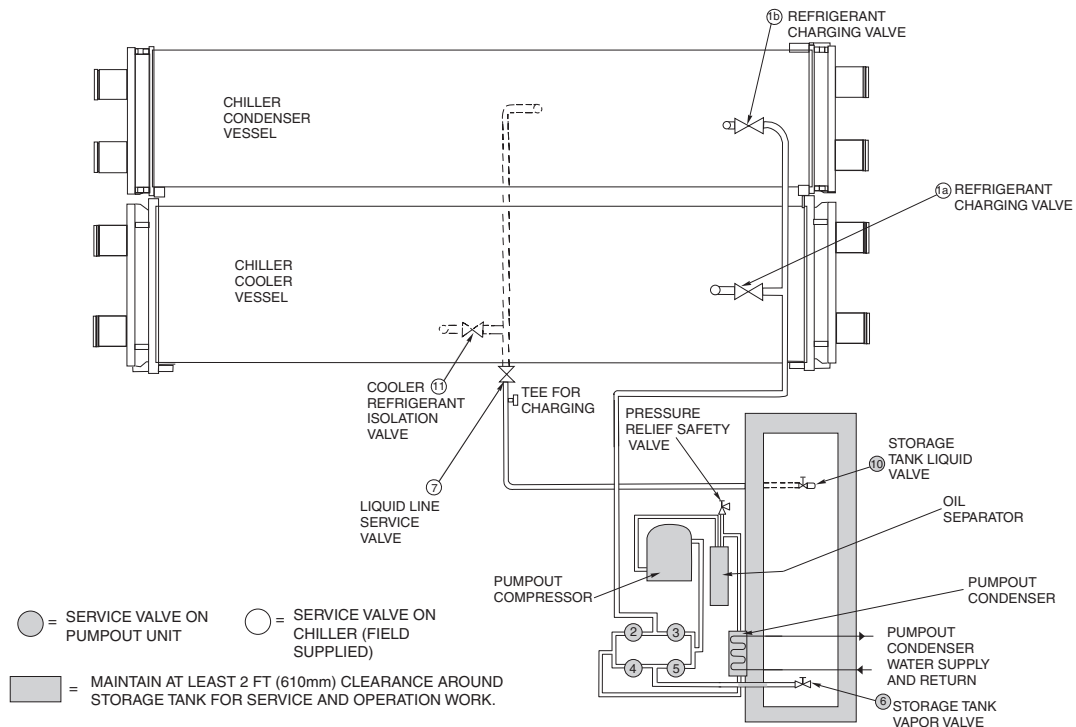

Fig. 33 — Typical Optional Pumpout System Piping Schematic with Storage Tank (not available with R-515B)
3. Once the pressures have equalized, the cooler isolation valve, the condenser isolation valve, and the hot gas isolation valve may now be opened. Refer to Fig. 33 and 34 for the location of the valves.
2. Open valve 4 on the pumpout unit and open valves 1a and 1b on the chiller cooler and condenser, Fig. 33 and 34. Slowly open valve 2 on the pumpout unit to equalize the pressure. This process takes approximately 15 minutes.
If the chiller has been shipped with a holding charge, the refrigerant is added through the pumpout charging connection (Fig. 33 and 34, valve 1b). First evacuate the nitrogen holding charge from the chiller vessels. Charge the refrigerant as a gas until the system pressure exceeds 35 psig (241 kPa) for R-515B or 39 psig (268 kPa) for R-513A. After the chiller is beyond this pressure the refrigerant should be charged as a liquid until all the recommended refrigerant charge has been added. The charging valve (Fig. 33 and 34, valve 7) can be used to charge liquid to the cooler if the cooler isolation valve (11) is present and is closed. Do not charge liquid backwards through any floats to condenser.